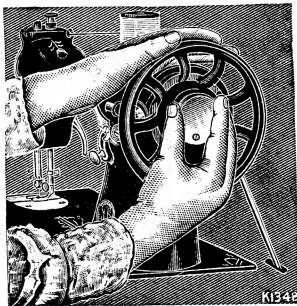
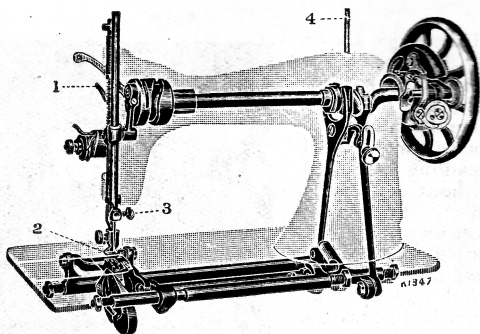

Fig. 1
Fig. 2
This device allows the balance wheel to run free, so that bobbins may be wound and the correct method of treadling acquired without operating the stitching mechanism. To loosen the wheel, hold it with the left hand, and with the right hand turn the stop motion screw over towards you, as shewn in Fig. 1.
When familiar with the working movement, tighten the balance wheel, by turning the stop motion screw from you, and place a piece of calico or cloth under the presser foot (2, Fig. 2). Lower the presser foot upon the material by means of the presser bar lifter (1, Fig. 2) and again work the machine, without it being threaded, until you have become accustomed to guiding the material.
Tighten the balance wheel, and after placing a piece of material under the presser foot (2, Fig. 2), **turn the handle from you** with an easy and regular motion. Continue to do this until you are able to guide the material correctly with the left hand.
Raise the needle bar (13) to its highest point and loosen the thumb screw (3, Fig. 2); hold the needle with the left hand and, with its flat side towards the balance wheel, insert it into the needle clamp (10) as far as it will go; then tighten the thumb screw.
Loosen the balance wheel by turning the stop motion screw over towards you (see Fig. 1), and place a reel of thread on the reel pin (4, Fig. 2). Pass the end of thread through the notch at top